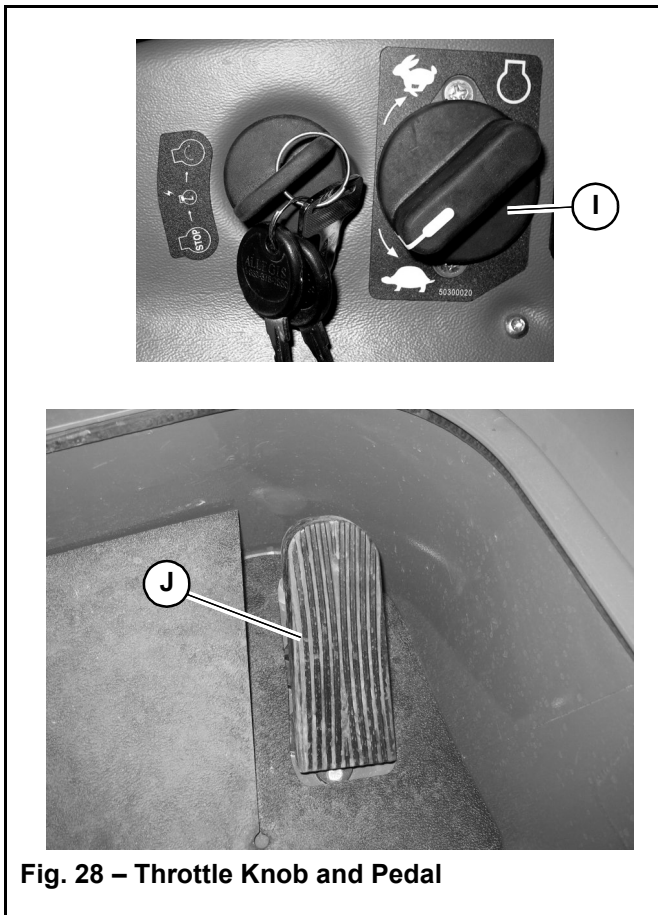

Fig. 28 – Throttle Knob and Pedal
Engine throttle is controlled with both a knob (I, Fig 28) and a pedal (J).